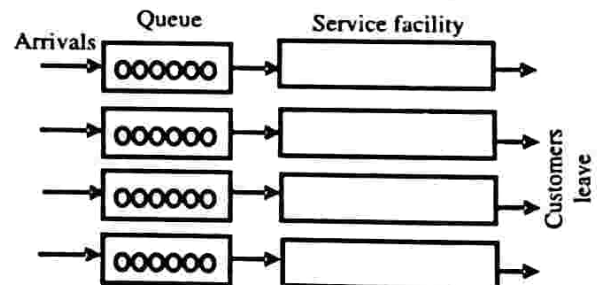

Figure 5.5: Multiple, Parallel Server, Multiple Queue Model
- c) **Multiple Parallel Facilities with Multiple Queues:** In this service facility, there is more than one server and more than one queue, i.e., each server has its own queue. For example, different counters for the verification of documents in the admission process of any university. It is shown in figure 5.5.